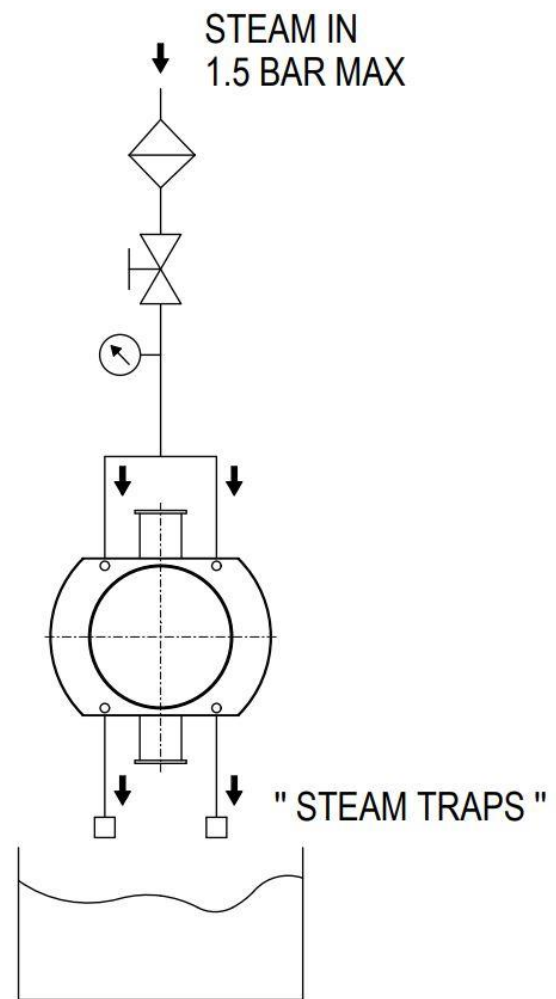

Figure 13 - Steam barrier flush system for double mechanical seal
- Refer to Figure 13 for suggested steam connection.